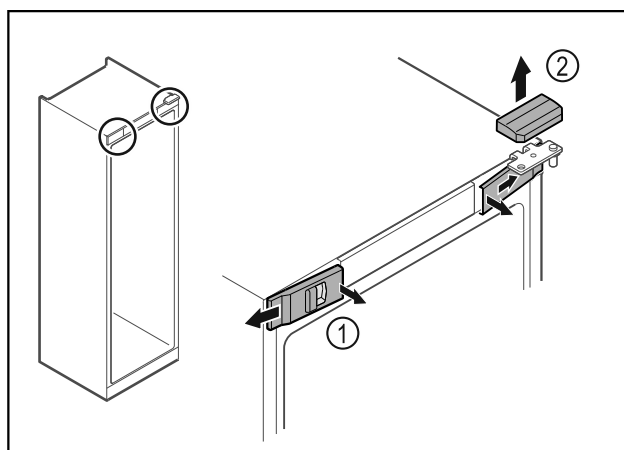

Fig. 18
- ▶ Unlatch the front covers Fig. 18 (1) on the inside and remove them sideways.
- ▶ Lift off the upper cover Fig. 18 (2).